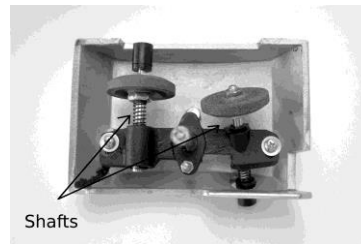

Figure 16
2. Put several drops of oil on the shaft behind each sharpening stone (See Fig. 16).